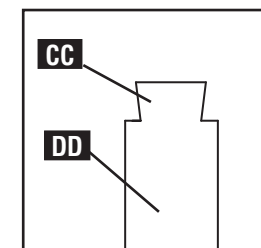

Fig. H22
**CENTERING THE TENON:** The tenon (CC) (side view at Fig. H22) might need to be centered on its board (DD), as shown. This is purely for aesthetic reasons; it will not significantly affect the strength of the joint. To center the tenon (CC) on the board (DD) (as shown in Fig. H22), the C2 template stops will need to be adjusted. To do this: